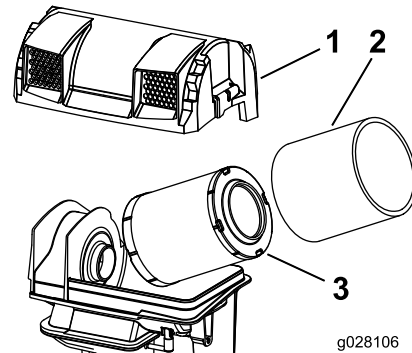

Figure 53
3. Remove the foam and paper elements (Figure 53).
4. Remove the foam element from the paper element (Figure 53).
2. Install the elements onto the air-cleaner base (Figure 53).